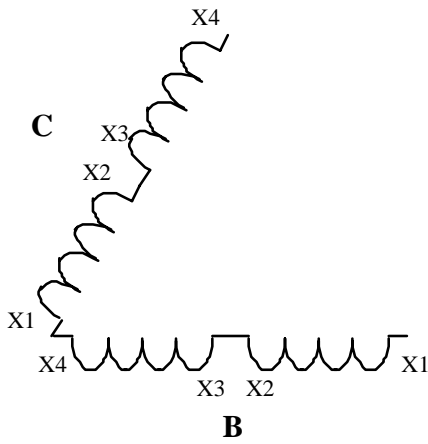

Figure 2
- b. First, connect two of the secondary windings as shown in Figure 2 below. Turn on the power and take the primary side voltage up to its rated value. Now measure the voltage across the open-delta secondary side. Explain why the voltage is what you measured in the conclusion of the report.